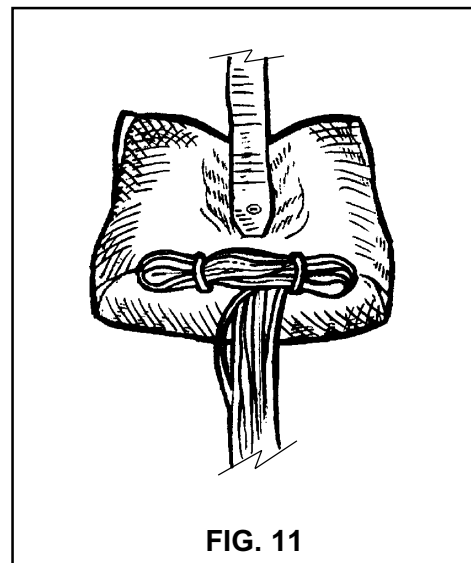

FIG. 11
14. Mate the velcro on the bridle to the velcro on the lower right side of the main container, harness-lateral and leg pad. The excess bridle between this velcro and the curved pin should now be tucked under the right side flap (**FIG. 11**).
11. Lock the mouth of the free bag by making two stows with the suspension lines in the "Safety Stow". (This is the loop made of 1/8" shock cord) (FIG 11). Javelin "Safety stow" must be used-use of any other may void TSO.